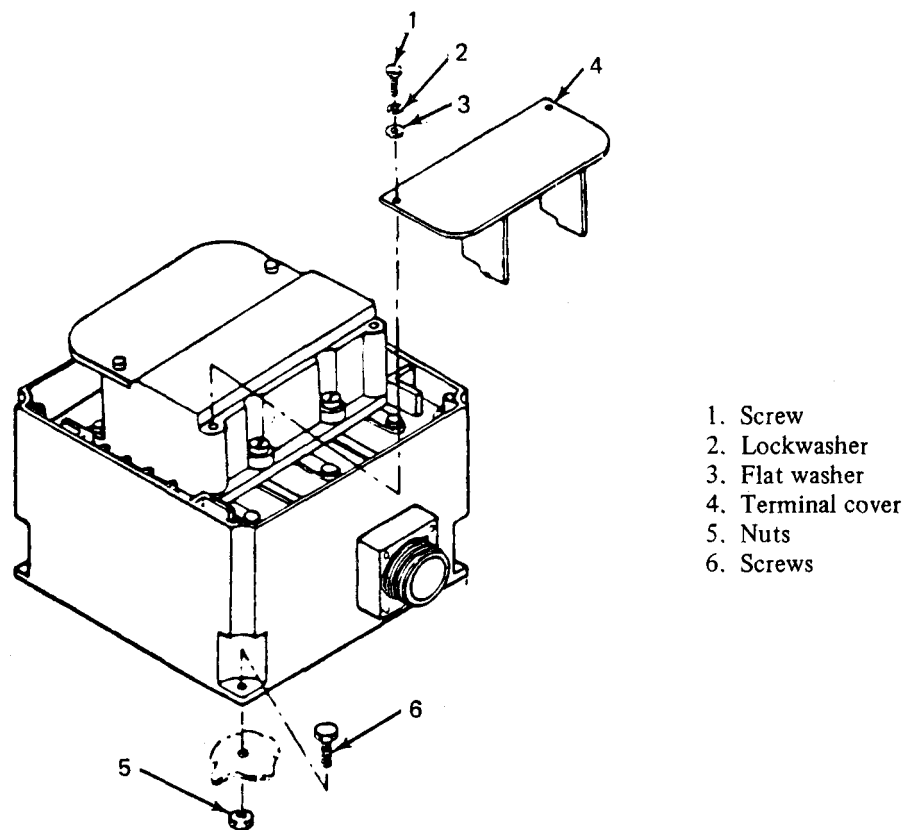

Figure 3-43A. Main Load Contactor Removal
(1) Remove screws (1, figure 3-43A), lockwashers (2), and flat washers (3) to remove terminal covers (4).
(2) Tag and disconnect electrical leads to terminals.
(3) Disconnect wiring harness connector from main load contactor connector.